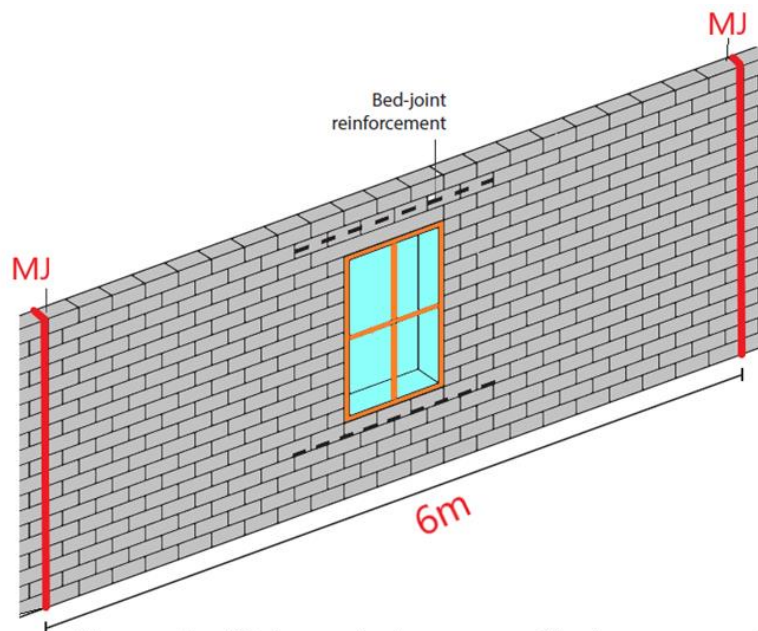

Figure 5 - Distance between vertical movement joints
- Vertical movement joints in masonry should be located no further than 6 metres apart (Figure 5)